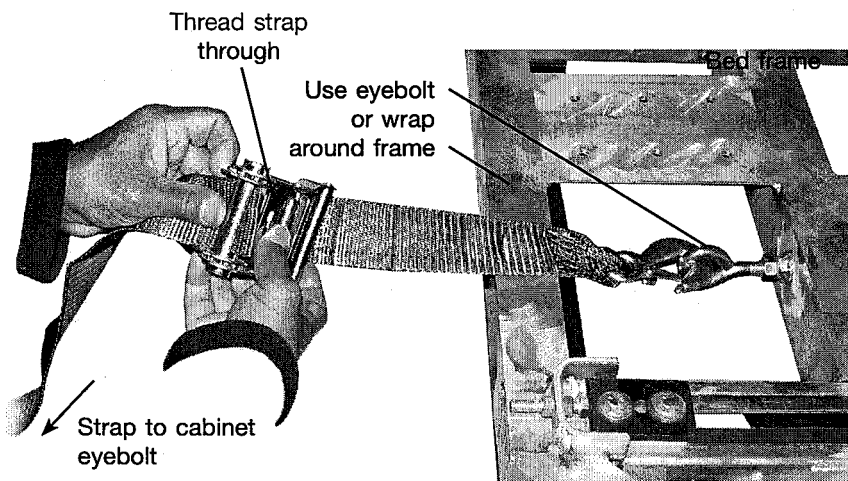

Figure 5.9
An eyebolt for attachment of the straps can be found in a passenger-side cabinet behind a drawer. Familiarize yourself with the location and operation of this hardware (**Figures 5.9** and **5.10**).
- 4 Connect the long strap to the ratchet and short strap as shown in **Figure 5.9**.